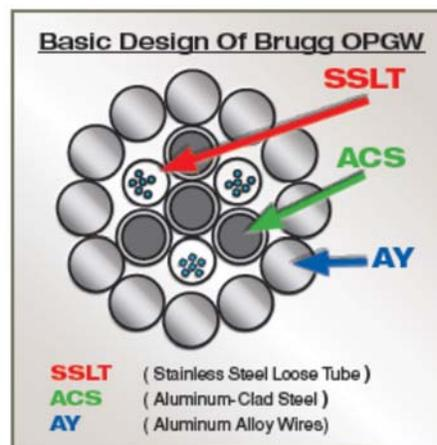

Figure 1 – A typical “fully stranded” type OPGW
Figure 1 shows a typical “fully stranded” Brugg-type SSLT OPGW design. In stranded SSLT designs, up to three (3) SSLT’s are stranded around a center wire. (Some suppliers will use more than three SSLT’s in a layer, but Brugg does not. The reason will be explained in the next section.) The center wire itself will be aluminum-clad steel (ACS) or 6201 aluminum alloy (AY) depending upon the required mechanical and electrical specifications. To complete the first layer of the cable, ACS or AY wires will be stranded with the SSLT’s. Which wire type is used will again depend upon what the mechanical and electrical specifications are. Then at least one more layer of ACS or AY wire, or a combination of both, will be concentrically stranded over the first layer to complete the cable. Here too, the material used will depend upon the specifications.
While anyone can make a stranded SSLT cable that looks similar to the Brugg one in Figure 1, Brugg notes that there are two important design elements that are not apparent just from the cross-sectional depiction of the cable: